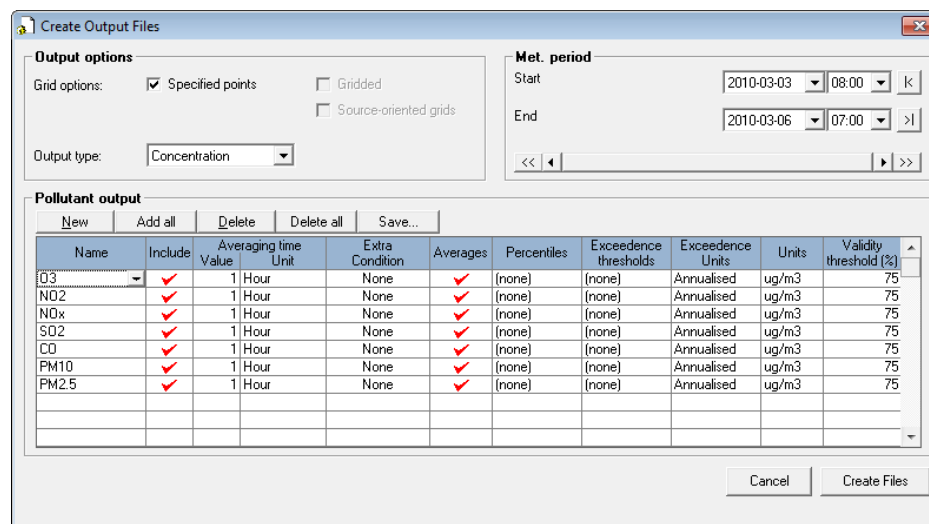

Figure 7.7 The COFP Create Output Files screen.
- Step 3** Click **Create Output** to open the Create Output Files screen, as shown in **Figure 7.7**.